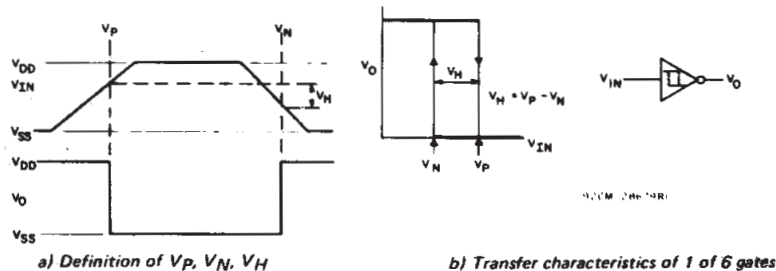

Fig. 6 - Hysteresis definition, characteristics, and test set-up.
■ CD40106B consists of six Schmitt-trigger circuits. Each circuit functions as an inverter with Schmitt-trigger action on the input. The trigger switches at different points for positive- and negative-going signals. The difference between the positive-going voltage (VP) and the negative-going voltage (VN) is defined as hysteresis voltage (VH) (see Fig.6). The CD40106B types are supplied in 14-lead hermetic dual-in-line ceramic packages (D and F suffixes), 14-lead dual-in-line plastic package (E suffix), and in chip form (H suffix).